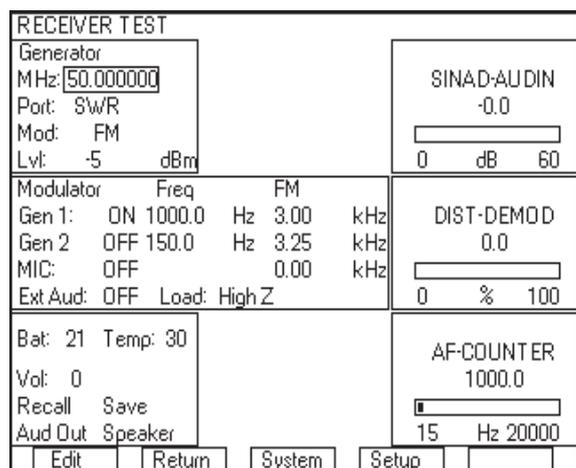

Figure 15 - RECEIVER TEST screen after setup
6. The graph should now indicate with a spike any faults in the cable and the end of the cable. The graph may look something like figure 15 or if there is no fault in the cable, there should only be one spike in the graph. One spike in the graph with a location equal to the actual length of your cable is indicative of a good cable.